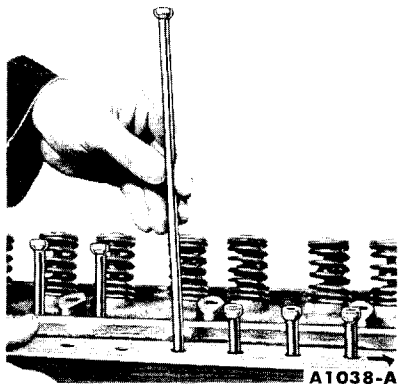

FIG. 14—Valve Push Rod Removal
13. Remove the valve push rods in sequence and identify them so they can be installed in their original positions (Fig. 14).
2. Remove the valve rocker arm cover and the valve rocker arm shaft assembly. Remove the valve push rods in sequence (Fig. 14).